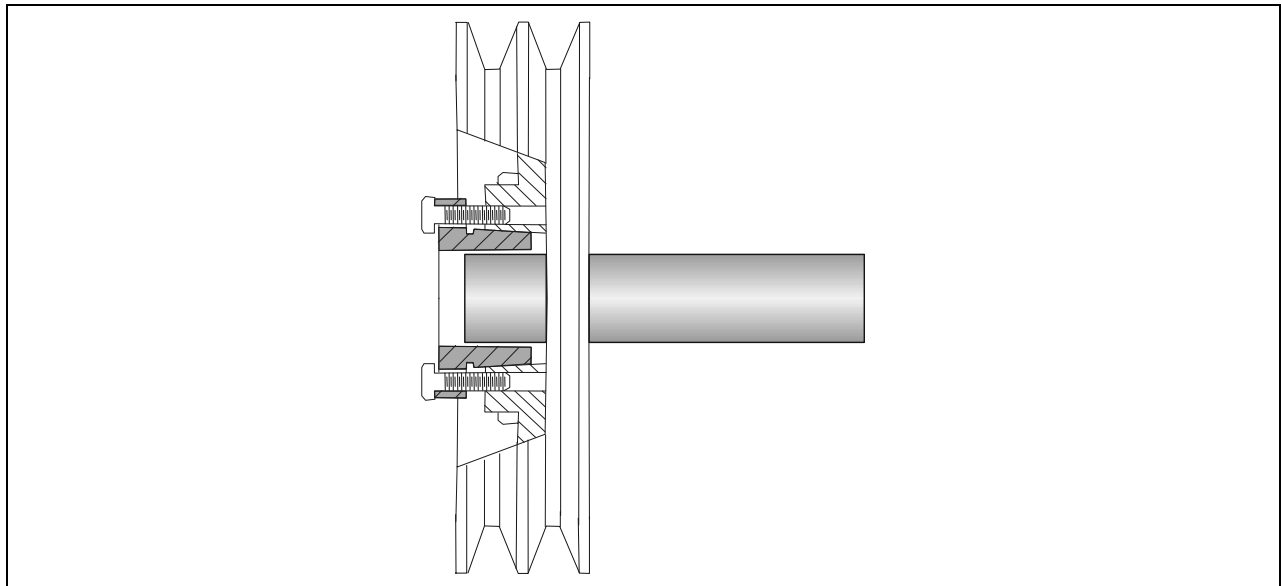

Figure 2: BUSHING AND PULLEY ASSEMBLY
1. Assemble bushing and pulley as shown (Figure 2). When retaining bolts are loosely inserted, bushing remains fully expanded to provide a sliding fit on the shaft.